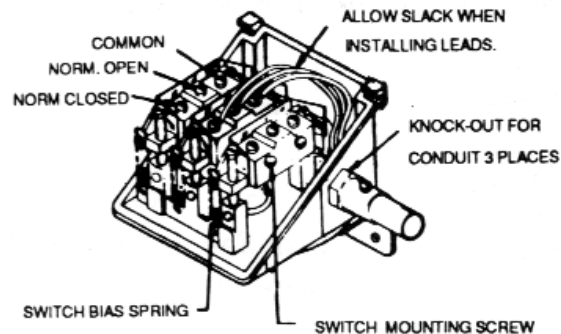

Figure 1
Connect conduit to the case and wire directly to the switch terminals according to local and national electrical codes. Bring the wires up to terminals from the rear of the case. (See fig. 1.) If manual reset switch or DPDT options are used, lead wires are supplied, color coded as follows:
- 2) Remove the two mounting screws. On multi-switch controls, first remove switch bias springs (See Figure 1.)